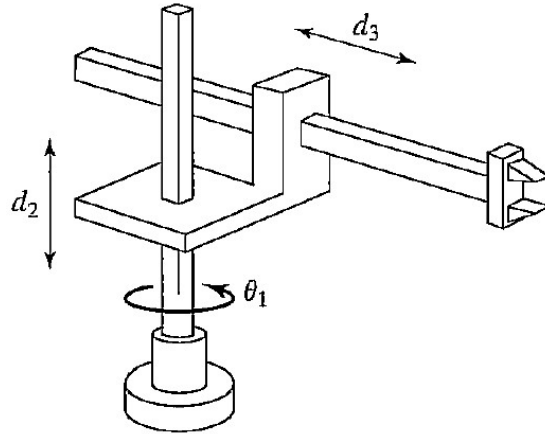

Fig. Q.2(a)
- Q.2(a) Analyse the inverse kinematics of the manipulator depicted in Fig. Q.2(a). Note that the axes of prismatic throws d_2 and d_3 are not intersecting. [5] 2 4